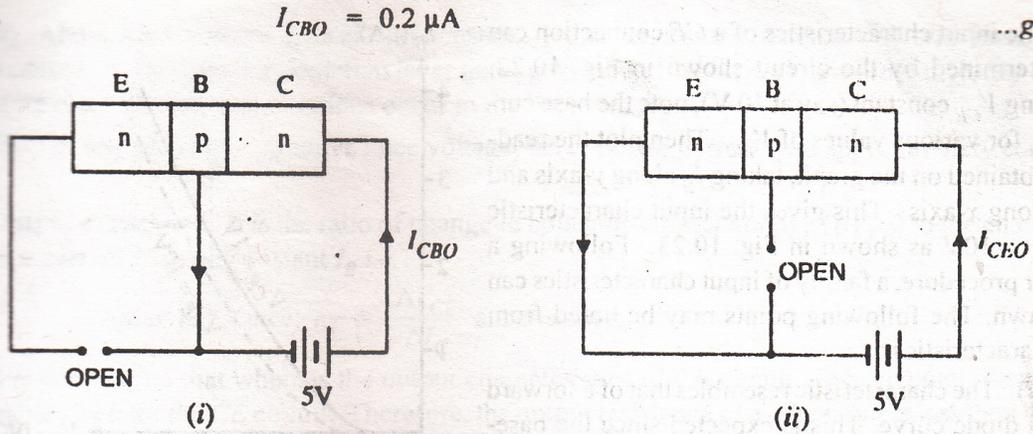

Fig. 10.21
**Solution.** When the emitter circuit is open [See Fig. 10.21 (i)], the collector-base junction is reverse biased. A small leakage current  $I_{CBO}$  flows due to minority carriers.
When base is open [See Fig. 10.21 (ii)], a small leakage current  $I_{CEO}$  flows due to minority carriers.